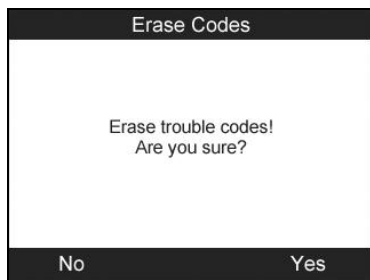

Figure 6.6
- 2) A confirm screen will show up. Press the corresponding **FUNCTION BUTTON** ‘**Yes**’ to continue; otherwise press the corresponding **FUNCTION BUTTON** ‘**NO**’ to exit. (Figure 6.6)